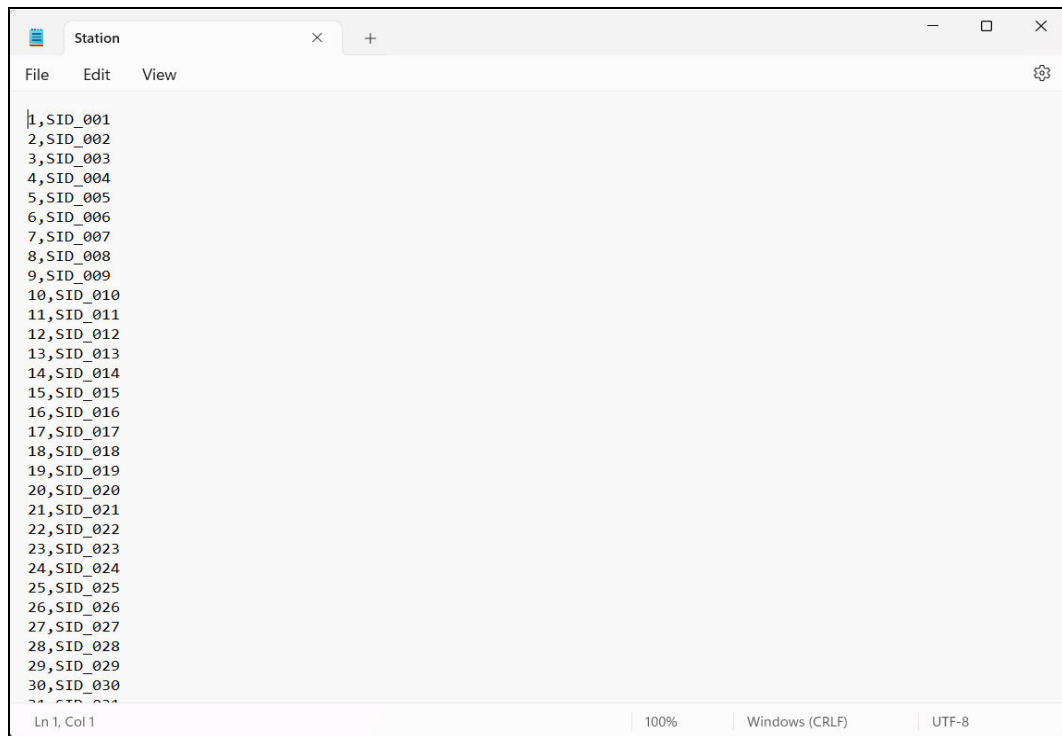

Figure 51: Station ID .csv File Opened in Notepad
2. To create a new ID list, click the appropriate **Export csv file** button. In the example file in Figure 51, the Station ID's **Export csv file** button was clicked.